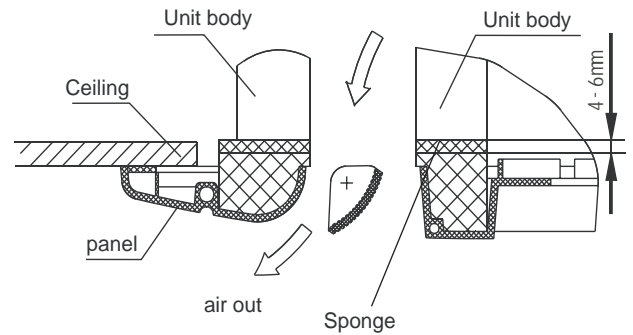

Fig.27
4. Adjust the 4 bolts to keep the panel horizontal, Close the bolts until thickness of the sponge between the body and the panel has been reduced to about 4~6mm. (Fig.27)
6. Close the bolts under the panel hooks, until the thickness of the sponge between the body and the panel has been reduced to about 4~6mm. (Fig.27)